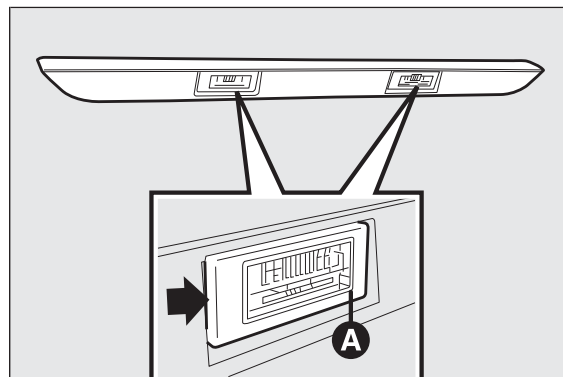

fig. 206
- ☐ operate in the point indicated by the arrow and remove the lens unit A fig. 206;